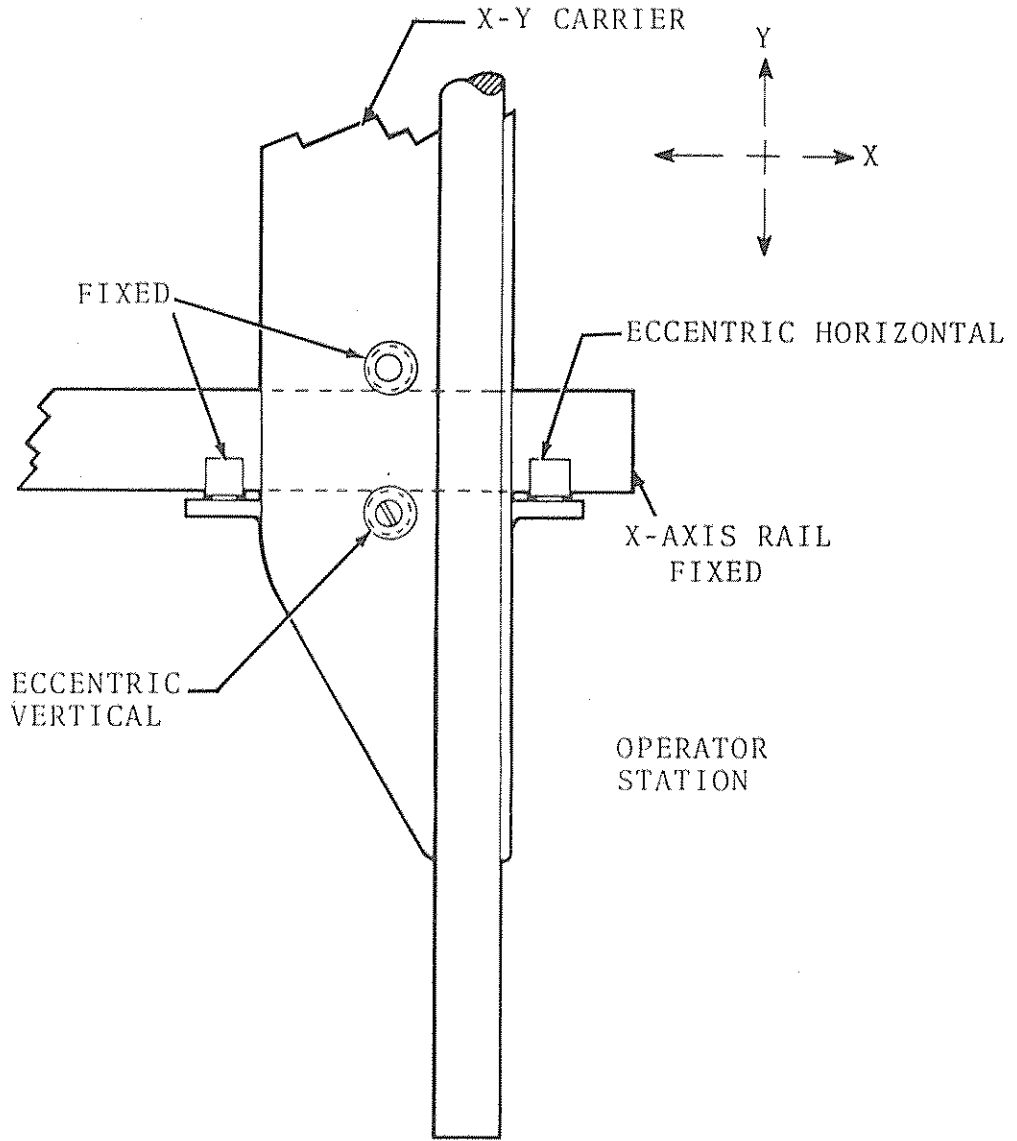

Figure E.1
- 3.1 Horizontal cam followers. Three of the top rolls are the fixed type (XM542MI) and the fourth is an adjustable type containing an eccentric sleeve (XM542L1). The latter follower is located at the operator end of the carrier. (See Fig. E.1.) All of the bottom rolls are adjustable.
- 3.2 Vertical cam followers. There are two vertical cam followers at the operator end of the carrier. (See Fig. E.1.) The roll on the inside edge of the rail is fixed, whereas the one on the outside edge (closest to operator) is adjustable.